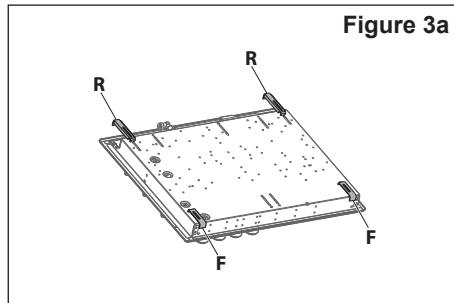

Figure 3a
Models DEGHSL60, DEGHSL75 (fig. 3a): The kit includes two “F” type brackets (for the front of the cooktop), two “R” type brackets (for the rear of the cooktop) and four self-threading screws “S”.
- Fasten the brackets “F” and “R” to the appropriate socket holes, without tightening the screws “S” for the moment. Make sure that the tabs are mounted correctly, as shown (figs. 3a, 3b, 3c, 3d). Rotate the tabs so that the cooktop can be put into the cutout.